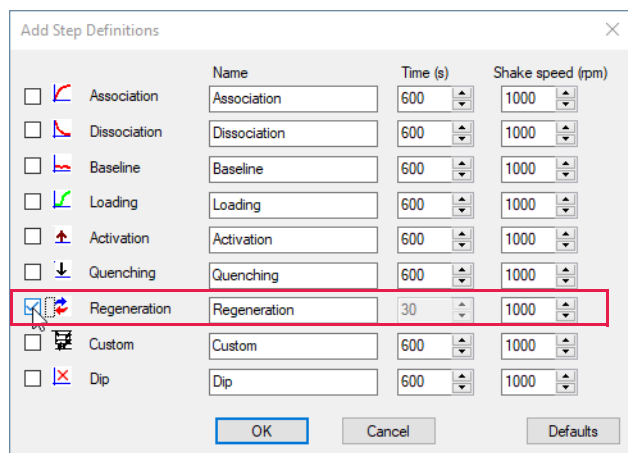

Figure 10-33: Creating an Assay Step Type
Click the Assay Definition tab, or click the  arrow to access the Assay Definition window (Figure 10-33). The Step Data List shows the types of assay steps that are available to build an assay. By default, the list includes a baseline step.
2. In **Assay Step Definition** dialog box (Figure 10-33), specify the step information: